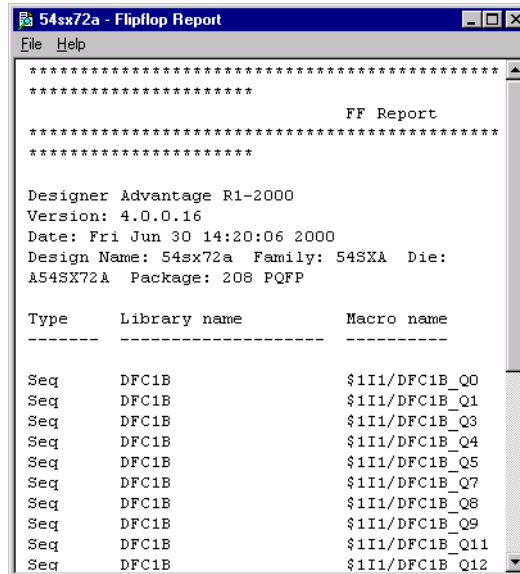

Figure 2-43. Flip-Flop Extended Report
3. **Specify the type of report to generate.** Select Summary or Extended from the Type pull-down menu, then click OK. This displays the report in a separate window, as shown in Figure 2-43.